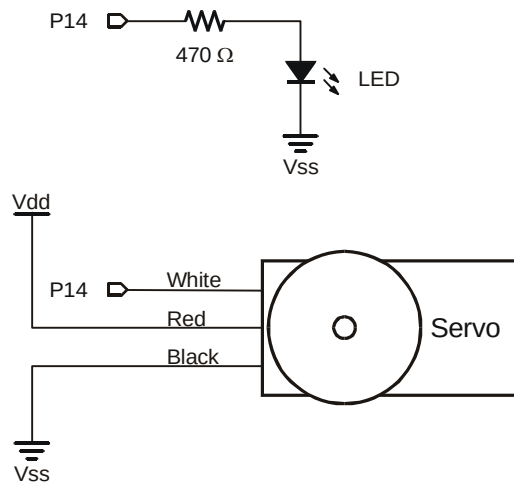
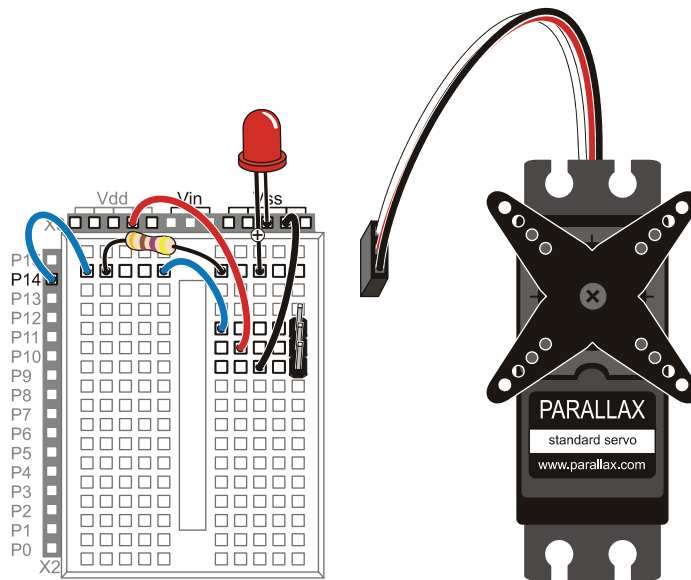

Figure 4-9
Figure 4-10
Figure 4-9 shows the schematic of the servo and LED indicator circuits on the BASIC Stamp HomeWork Board. The instructions that come after this figure will show you how to safely build this circuit.
- ✓ Build the LED indicator and servo header circuit shown by the schematic in Figure 4-9 and wiring diagram in Figure 4-10.